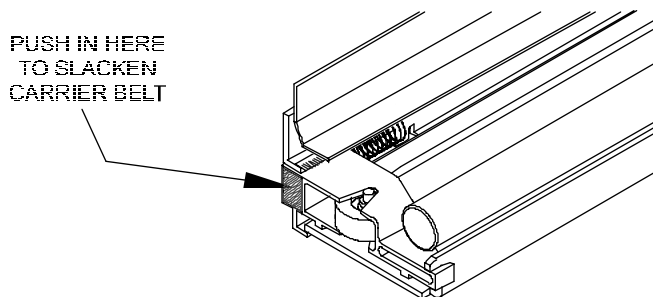

Figure 5-9. Slacken Carrier Belt.
7. Depress the back of the Frame Tensioner (see Figure 5-9) to create slack in the Carrier Belt and slip it off of the Servo Motor pulley.
6. Compress the back of the Frame Tensioner and use the end of a screwdriver to remove the Carrier Belt from the Servo Motor pulley. See Figure 5-9.